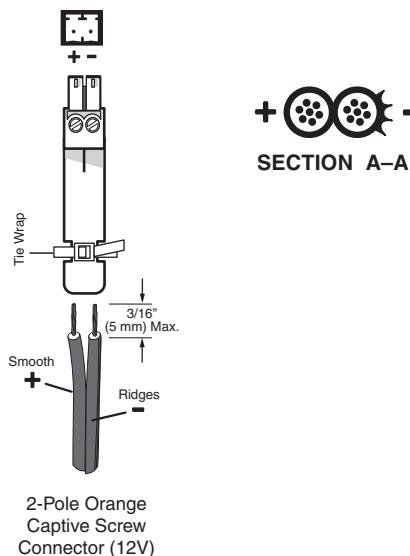

Figure 13 — Power connector wiring
- ① **Input connector (SEQ 100 15HD)** — Connect input VGA or RGB video to this female 15-pin HD connector.
- ② **Output connector (SEQ 100 15HD)** — Connect a VGA or RGB video device to this female 15-pin HD connector.
- ③ **Power connector** — Plug the included external 12 VDC power supply into this 2-pole captive screw connector. Figure 13 shows how to wire the power connector.
Power supply voltage polarity is critical. Incorrect voltage polarity can damage the power supply and the SEQ. Identify the power cord negative lead by the ridges on the side of the cord (figure 13).